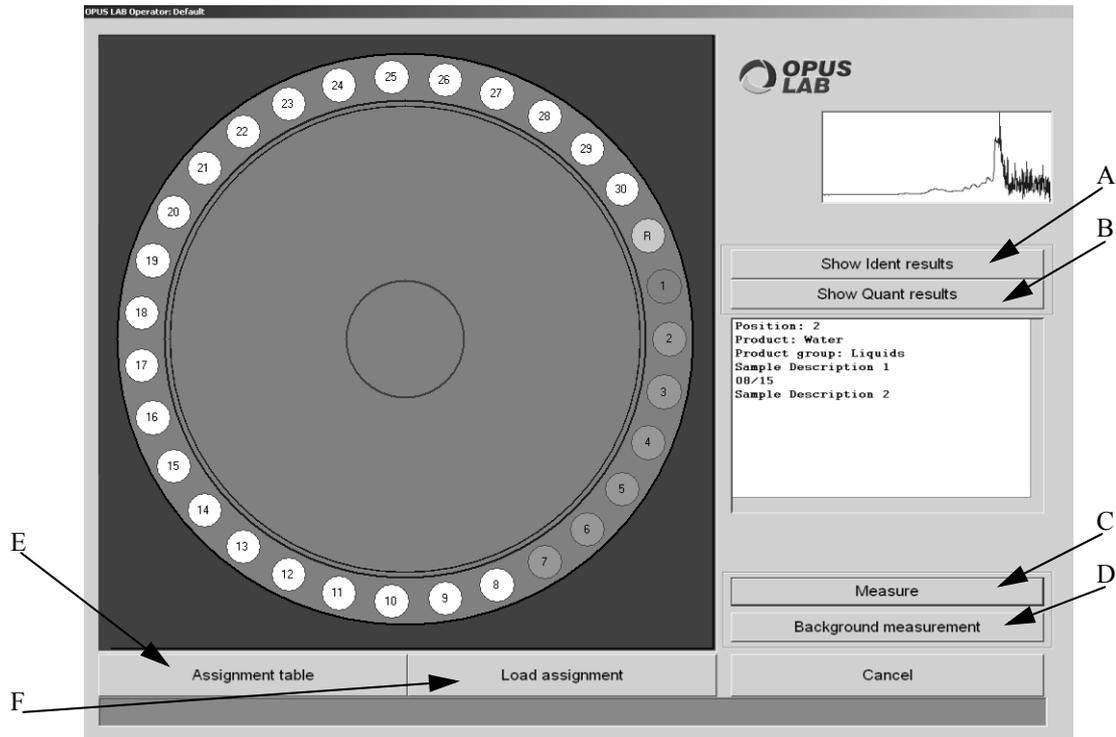

Figure 35: OPUS LAB sample changer dialog
If you click on the *Sample changer* button (optional), the *Sample changer* dialog opens (see figure 35).
There are different possibilities to assign products to sample changer positions. Either click on the *Assignment table* button (E in figure 35) to assign the complete sample changer, or assign single positions by clicking on the respective positions using the left mouse button. The positions turn from white to yellow. A right mouse click opens the assignment table specified for the selected positions (see figure 36).
- Click on the *Measure background* button in the dialog for single sample measurements (see figure 27) or in the dialog for sample changers (see figure 35). The validity period specified for the current background spectrum will be verified. A new background spectrum will be measured if the validity period of the current background spectrum has expired. If you have activated the *Cleanness test* option (see figure 9 on page 16) for the current product, the probe cleanness will also be tested.
- Clicking on the *Measure* button in the dialog for single sample measurements (see figure 27) or in the dialog for sample changers (see figure 35) the validity period of the current background spectrum will be verified. A new background spectrum will be measured if the validity period of the current background spectrum has expired. If you have activated the *Cleanness test* option (see figure 9 on page 16) for the current product, the probe cleanness will also be tested.